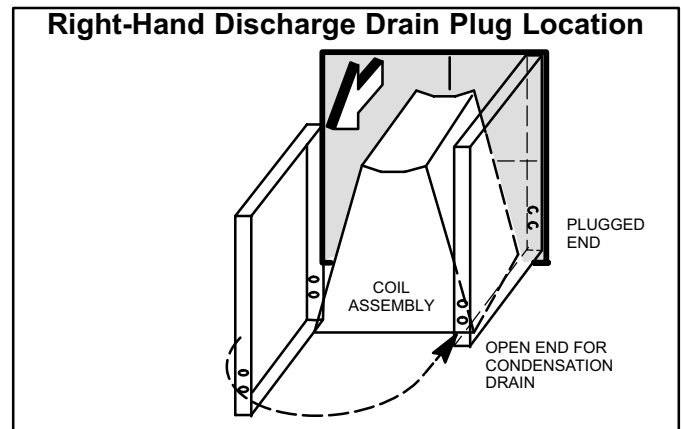

Figure 7
5. Move the horizontal drain pan to the opposite side of the coil. Be sure drain holes toward the back of the unit are plugged (see figure 7). Remove the plugs from the front drain pan ports.